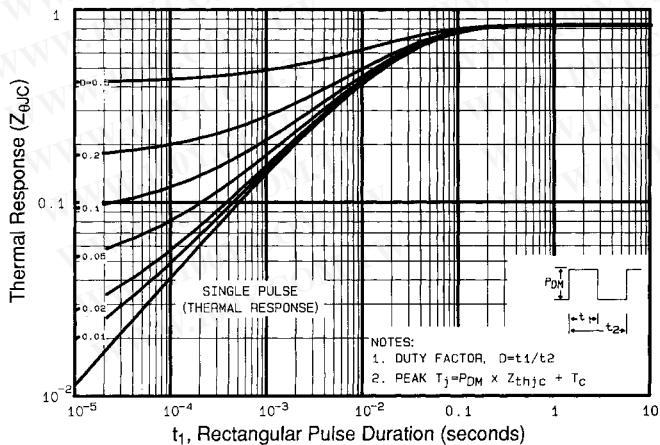

Fig 11. Maximum Effective Transient Thermal Impedance, Junction-to-Case
① Repetitive rating; pulse width limited by max. junction temperature (See Figure 11)
③  $I_{SD}\leq 4.3\text{A}$ ,  $di/dt\leq 100\text{A}/\mu\text{s}$ ,  $V_{DD}\leq 600\text{V}$ ,  $T_J\leq 150^\circ\text{C}$